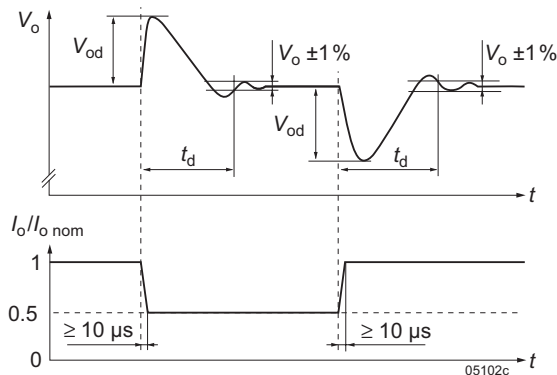

Fig.3
- 4 Recovery time until V_o returns to $\pm 1\%$ of V_o ; see fig. 3.
The output is continuously protected against open-circuit (no load) and short-circuit by an electronic current limitation with rectangular characteristic; see fig. 3.